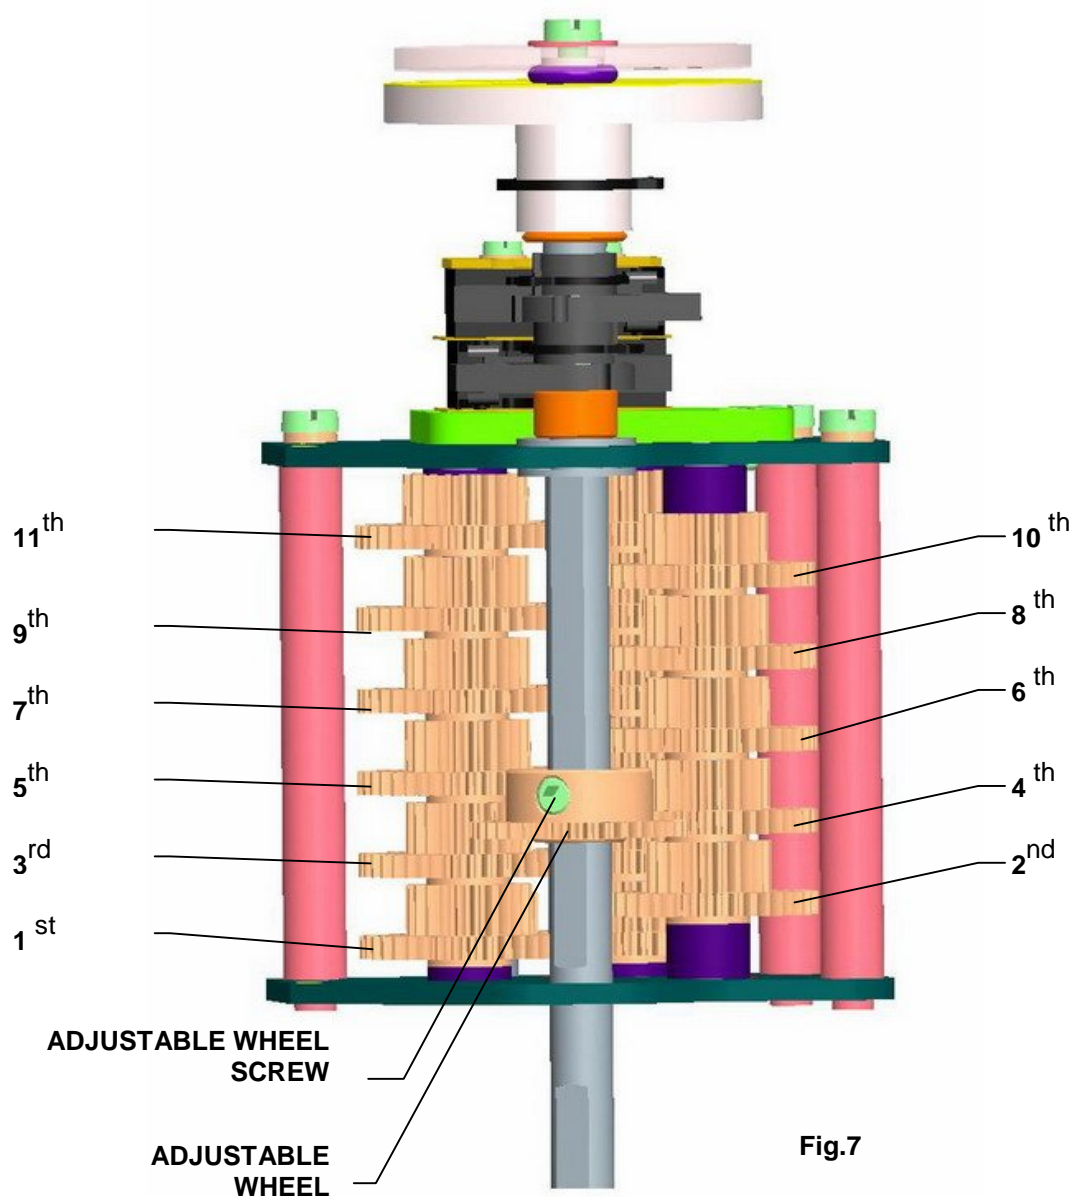

Fig.7
- Having the set screw of the gear unit wheel released, move the adjustable wheel to a required stage of the range (it means to a one corresponding accurately to the particular revolutions, or to the next higher one) according to table Nr. 3 and Fig.7. When moving the adjustable wheel, take care to achieve the proper meshing with the gear wheel of the subjected stage, and then tighten the set screw back.